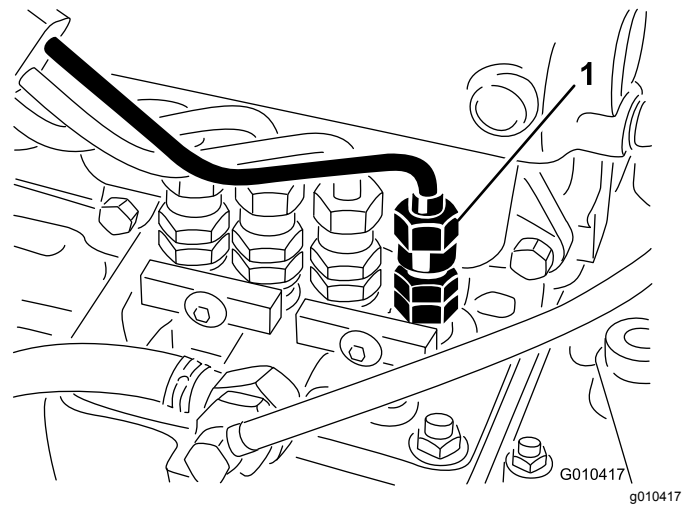

Figure 36
1. Loosen the pipe connection to the No. 1 injector nozzle and holder assembly at the injection pump (Figure 36).